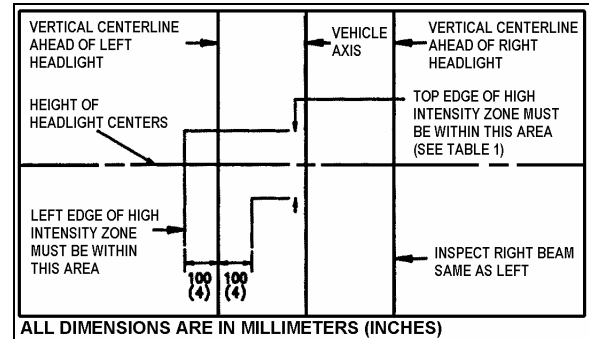

FIGURE 35: AIM INSPECTION LIMITS FOR LOWER-BEAM HEADLIGHTS 06506
- The inspection limits in the vertical direction for low-beam headlights or the low beam of a dual-beam headlight, shall be as described in Table 1. In the horizontal direction, the left edge of the high-intensity zone shall be located from 10 cm (4 in) left to 10 cm (4 in) right of the vertical centerline of the beam. The viewing screen shall be located 7.6 m (25 ft) in front of the vehicle (Fig. 35).